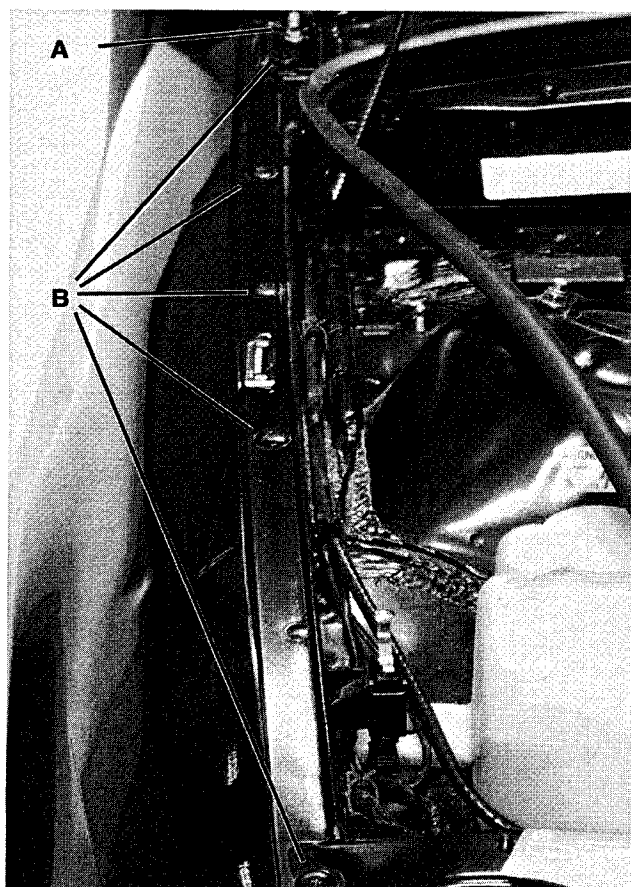

Fig. 3. Loosen bolt **A** at top of fender. Remove bolts **B**.
7. Remove bolts along top edge of fender. See Fig. 3.